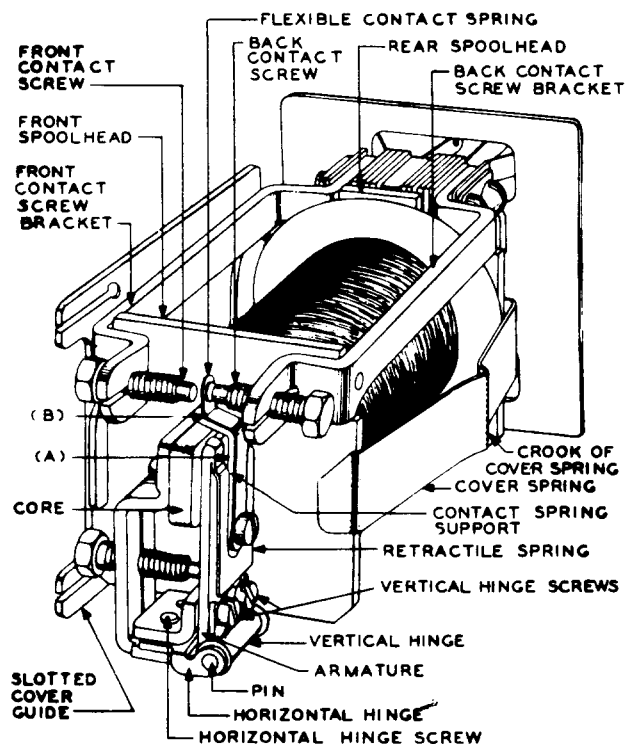

Fig. 2 - Relay Shown Equipped with Slotted Cover Guide and Cover Spring (Cover Guide and Spring Used Only on N- and S-type Relays)
- 2.07 Clearance Between Contact Spring and Retractable Spring: Fig. 2(A) - Neither the contact spring nor contact spring support shall touch the sides of the slot in the retractile spring in the operated or unoperated position of the armature.
- (a) Test: Fig. 2(B) - The flexible contact spring shall rest on the spring support at least within 1/16 inch of the extreme end of the support.